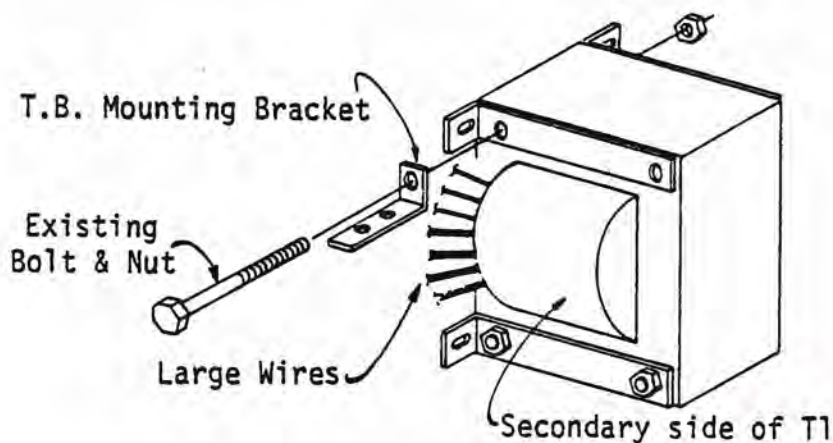

Figure 5-57 Transformer Mounting Bracket
1. Orient the transformer with the secondary side (4 large black wires\*) facing you as illustrated in Figure 5-57. Remove the two (2) top bolts and nuts, and use them to mount the pair of "L" brackets (Bag 2). See Figure 5-57.